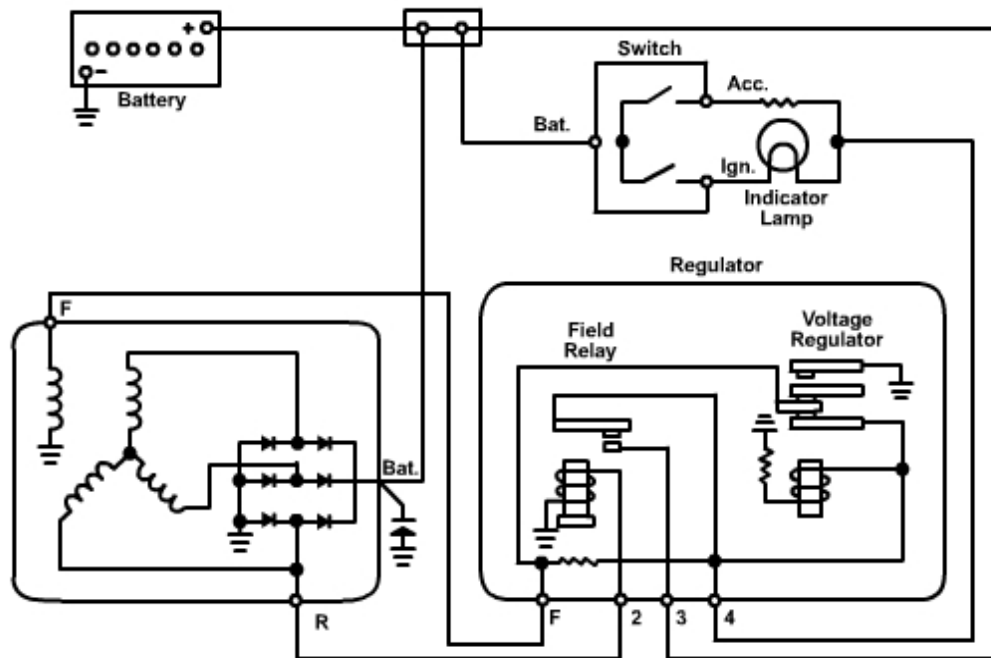

Figure 8-50 — No-charge indicator schematic.
- No-charge indicator is set up to indicate whenever the alternator is not producing current (*Figure 8-50*).